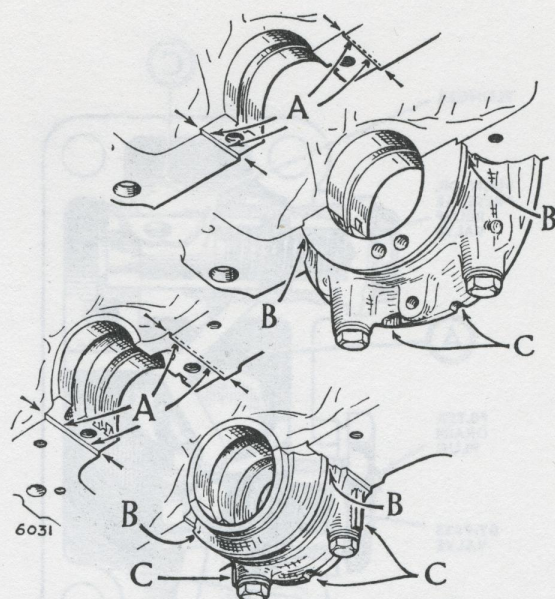

Fig. 32. Places at which jointing compound is used when replacing sump and identifications used to show when THIN cork joints are fitted.
The thickness of the semi circular cork joint is  $\cdot 180'' - \cdot 190''$  (4.5 — 4.88 mm.) or  $\cdot 150'' - \cdot 160''$  (3.8 — 4.0 mm.). **These joints are not interchangeable.** The thin joint has replaced the thick joint and is recognised by its colour dyed ends. Where the thin joints are used the front and rear main bearing caps have a casting recess, or cast protrusions as shown in Fig. 32, by the letter (C). The identification used on the front main bearing caps can be seen with the sump in position. A small number of these bearing caps are without the casting marks and have rough ground grooves as illustrated.
When dealing with difficult cases of oil leakage, the front and rear main bearing caps should be removed and "Wellseal" or other suitable non-setting jointing compound applied along the front and rear main bearing recess vertical locating faces (A) as shown in Fig. 32. The compound must be kept off of the horizontal butting faces. On replacing the main bearing caps the jointing compound is trapped in the small corner clearance between the outside edges of the bearing caps and the corner of the locating recess. This prevents oil leakage along the small clearance that must exist at these points and along which oil sometimes leaks.